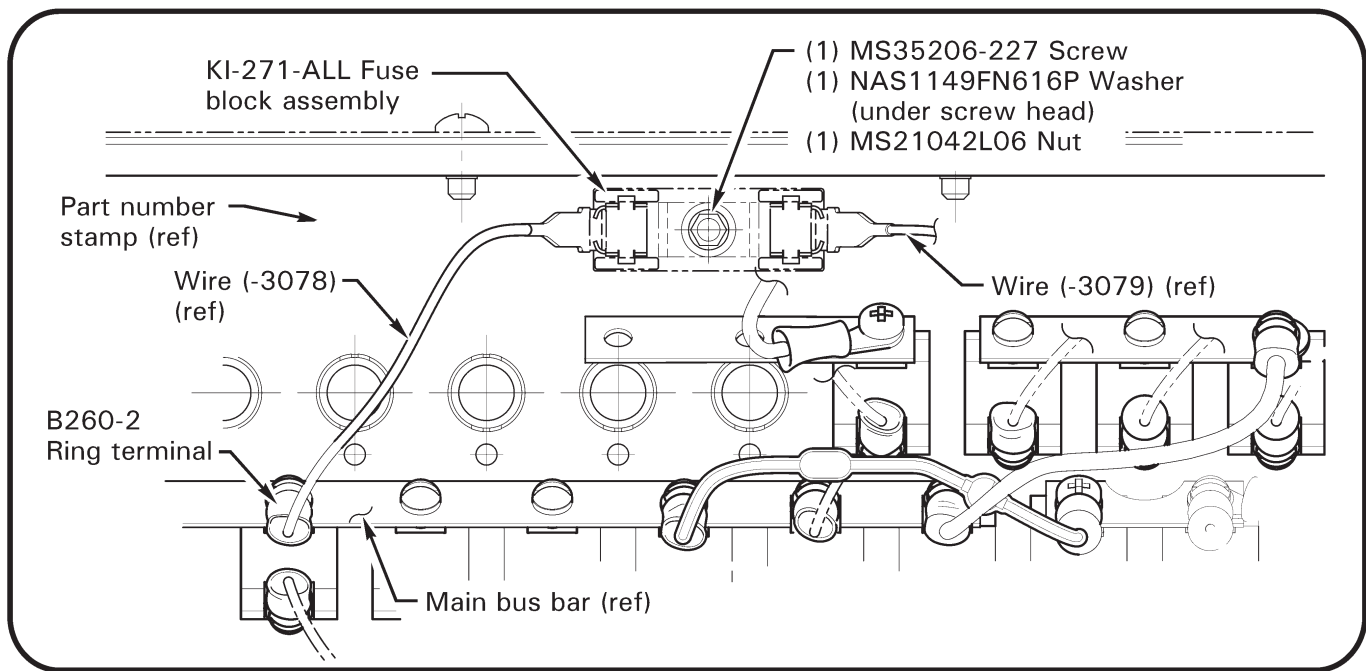

FIGURE 4B Fuse block assembly installation
- c. Route wire (-3079) to newly installed fuse holder (Figure 4B) on circuit breaker panel. Slide (1) B158-3-KI-275 heat shrink onto wire, then (1) B158-2 heat shrink, cut to 1-inch length. Cut wire to length and strip end. Solder wire to fuse holder. Slide B158-2 heat shrink over soldered area and apply heat using heat gun. Slide B158-3-KI-275 heat shrink over B158-2 heat shrink and apply heat. Verify security.